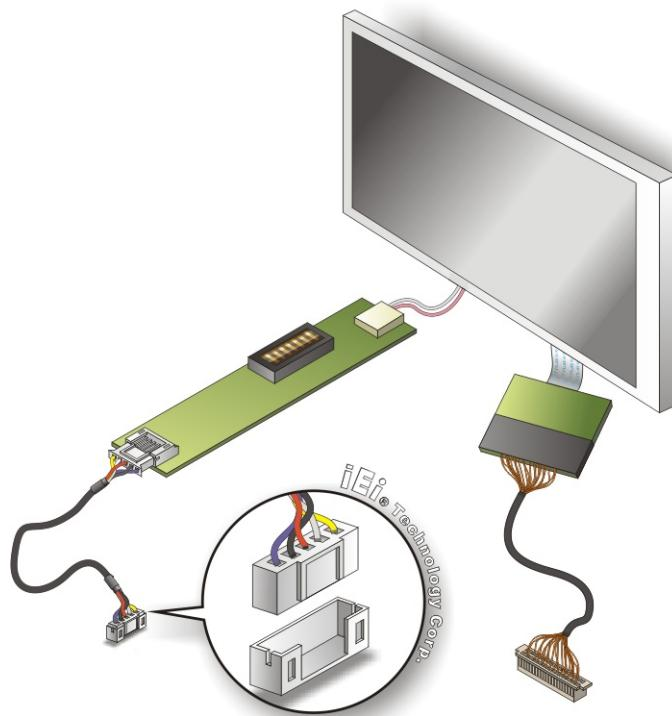

Figure 4-26: Backlight Inverter Connection
Step 4: Connect backlight connector. Connect the backlight connector to the driver TFT LCD PCB as shown in Figure 4-26. When inserting the cable connector, make sure the pins are properly aligned.